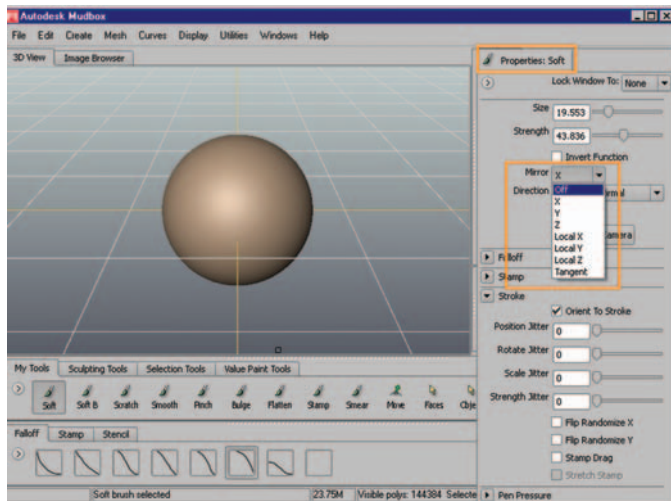

Figure 11.29 Properties tab and the Mirror drop-down menu. Select Off from the options in the drop-down.
4. By default Mirror is active. Click on the Mirror drop-down menu under the Properties tab on the right of the UI and turn off Mirror. Figure 11.29 shows the menu highlighted.